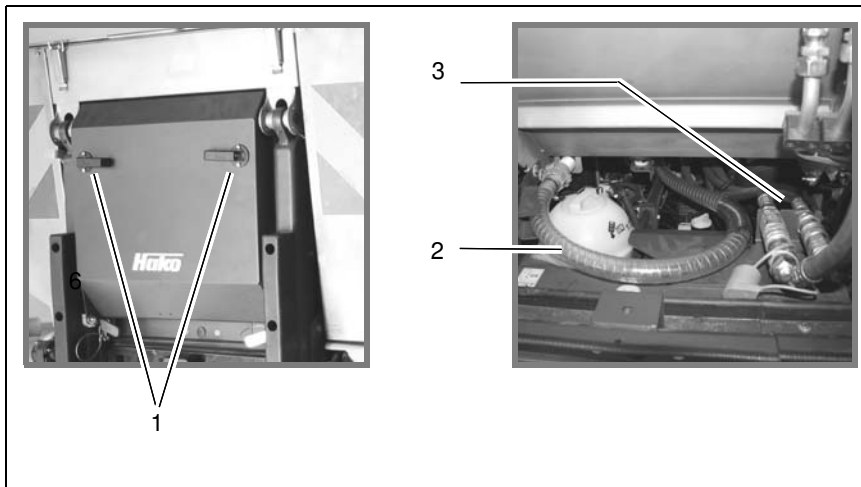

Fig.36
16. Mount the rear door and close the locks (Fig. 36/1).
Dismantling the dirt hopper is carried out in the reverse order. Ensure that the circulation water hose (Fig. 36/2) and the hydraulic hoses (Fig. 36/3) are laid carefully!